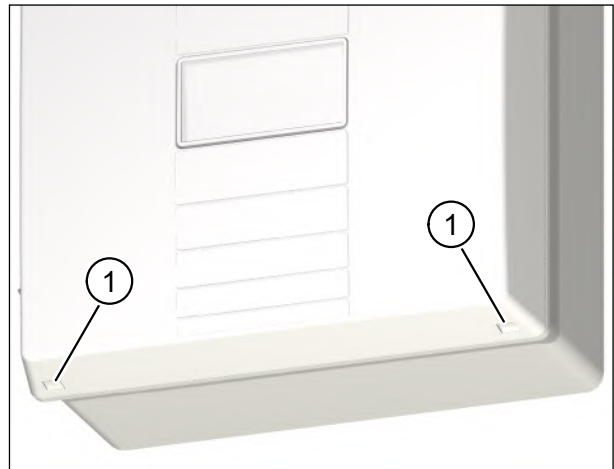

Fig. 22: Removing the unit cover from the ventilation unit
- Using both thumbs, press the two latches (item 1 in Fig. 22) on the bottom of the ventilation unit. The unit cover will come away.